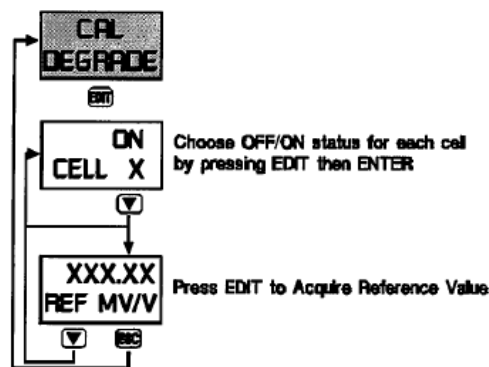

Figure 3-3. Degrade Mode Operation.
To activate degraded mode operation it is necessary to shutoff the suspect channel (cell) using the Cell ON/ OFF selection (Figure 3-3) accessed via the keypad. It is not possible to automatically activate this mode internally or remotely through the serial port.
3. Proceed to the Degrade Set-up Menu (Figure 3-3) and make sure all cells are 'ON'.